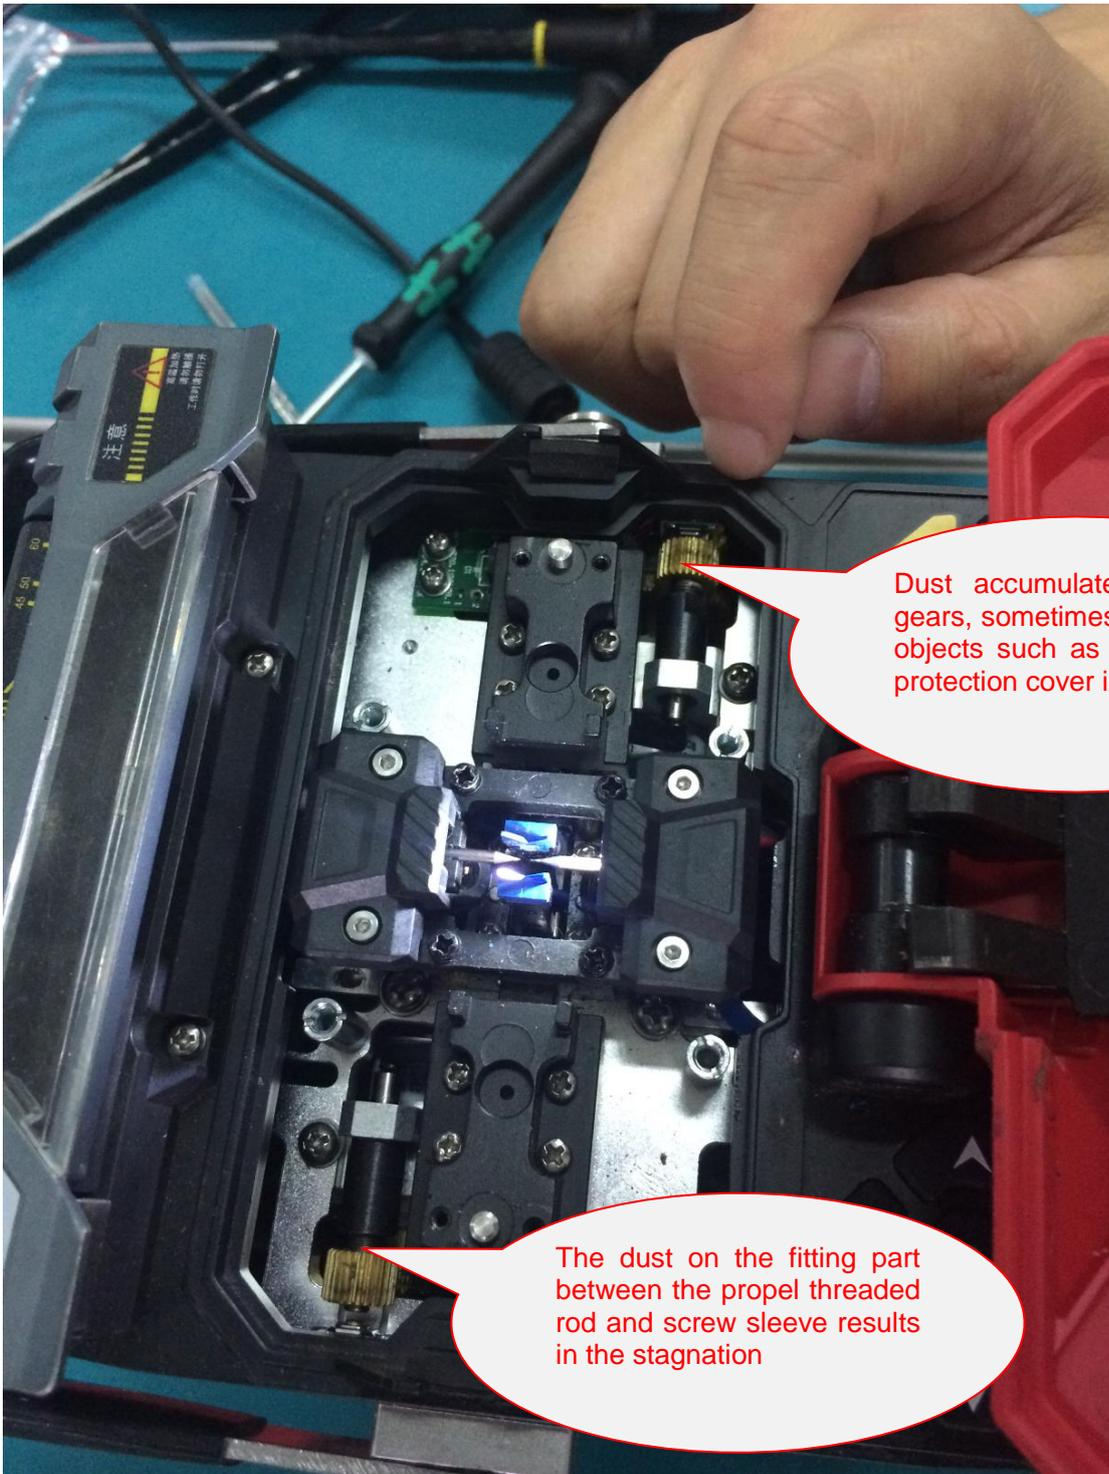

Fig.5 Cleaning of foreign objects between motor gears
- ① Open the windshield and remove the fixture and pressure plate.
- ② As shown in Fig.5, there are foreign objects between the gears of propel motor. Clean the foreign objects.
- ③ Start the instrument, and when the propel motor is stuck, manually assist the motor to smoothly pass the jam and enable the instrument to normally start.
- ④ Press the "Menu" button to enter the menu page, select "maintenance" ---> "motor" ---> "motor adjustment", and select the left or right motor to be cleaned via the "Enter" button.
- ⑤ Operate the "Left" and "Right" buttons to locate the different parts of micrometer head of propel motor for the convenient cleaning.
- ⑥ Gradually clean the foreign objects in various parts of micrometer head with the cotton stained with alcohol held by tweezers.